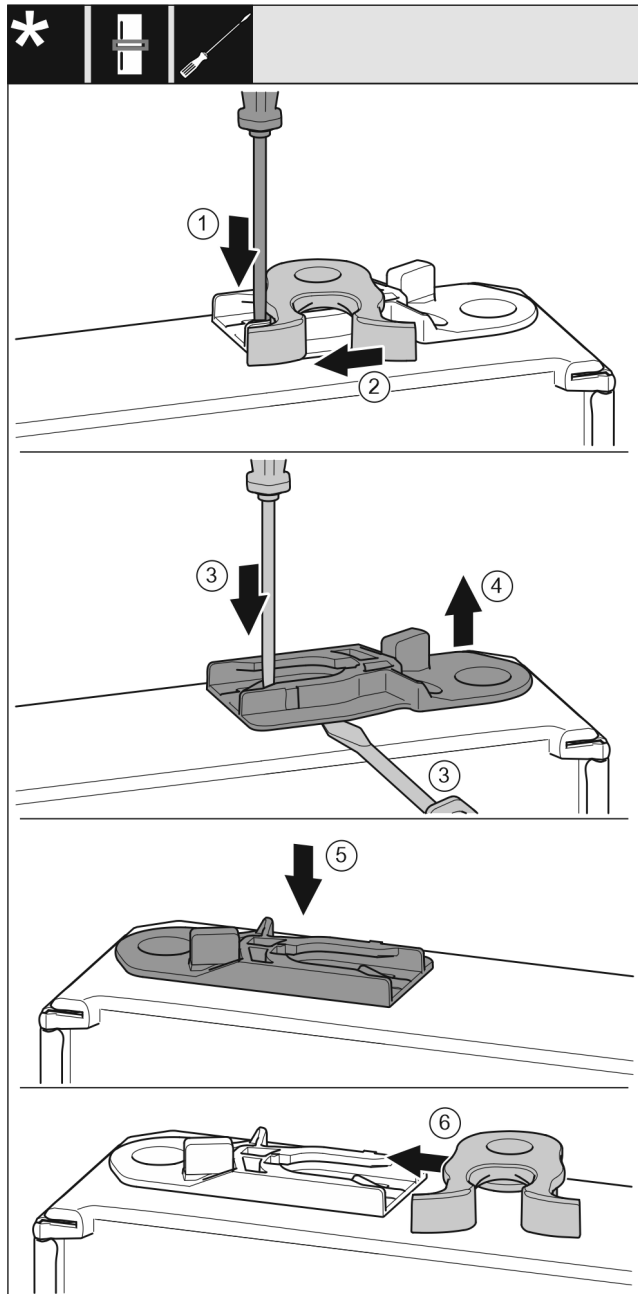

Fig. 19
- ▶ Use a slotted screwdriver to push the tab Fig. 19 (1) downwards.
- ▶ Pull the closing hook Fig. 19 (2) out of the guide.
- ▶ Pull out the guide bush Fig. 19 (3, 4): Press the tab with a flat-blade screwdriver and at the same time move the flat-blade screwdriver under the guide bush.
- ▶ Insert the guide bush Fig. 19 (5) supplied on the other side of the housing.
- ▶ Slide the closing hook Fig. 19 (6) into the guide.